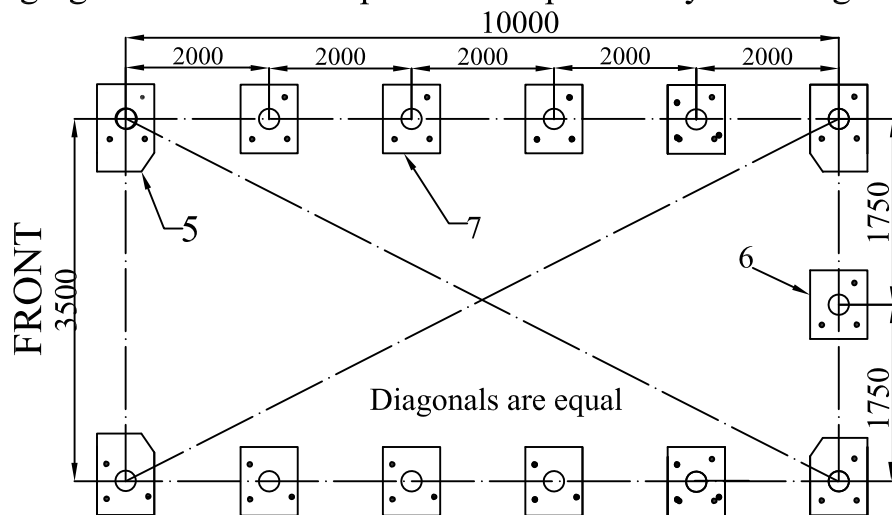

Figure 2 Position of Base Flanges
Begin by determining exact location of the four (4) corners of the building. Mark front edge and side-to-side width of assembly on ground. Drive alignment stakes into the ground outside of the markings, and draw alignment strings along both ends and sides of the building to the dimensions shown in Figure 2. The outline of the strings will represent the final location of the base flanges. The initial location of each Corner Base Flanges(part #5) is critical to the alignment and fit of the frame components and cover.
Locate the Left Corner Base Flange and Right Corner Base Flange(part #5). Secure the base flanges with Stake Pegs (Part #31). Measurements shown in Figure 2 are to the center of the upright sockets on each Base Flange.